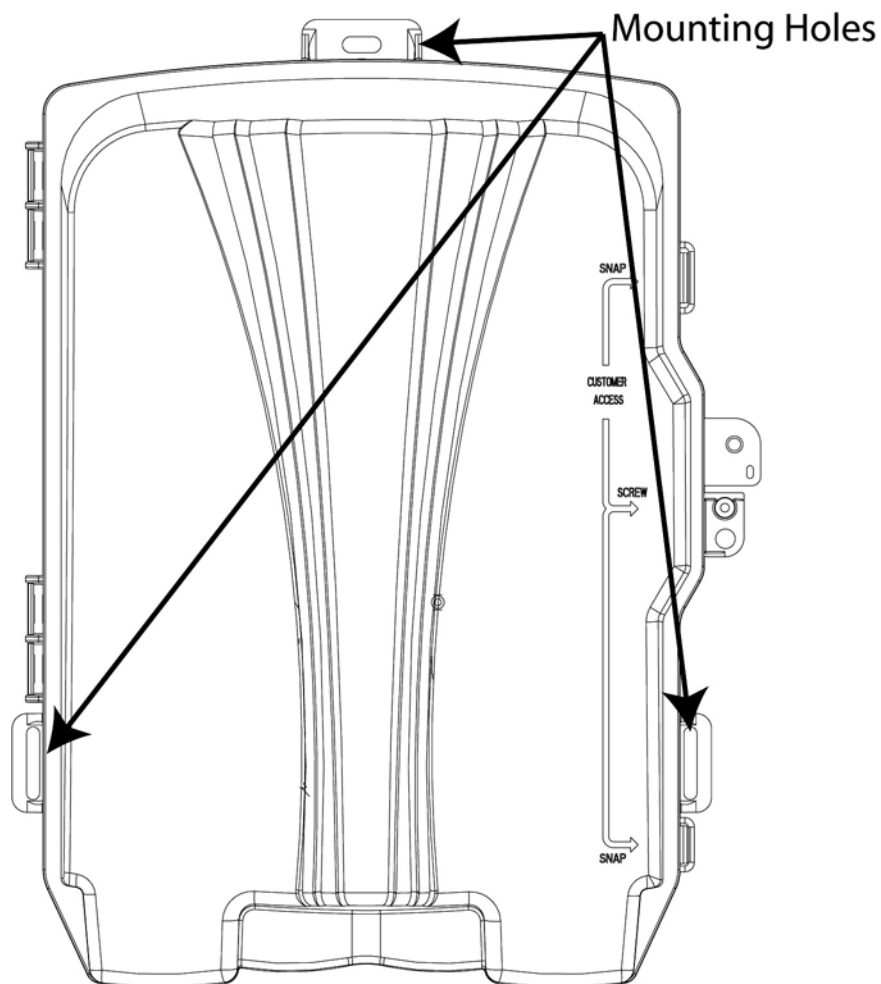

Figure 4. Mounting Hole Locations
3. Using the enclosure as a template, mark the three mounting holes on the wall, as shown in Figure 4, and prepare a mounting hole in the wall for each opening.